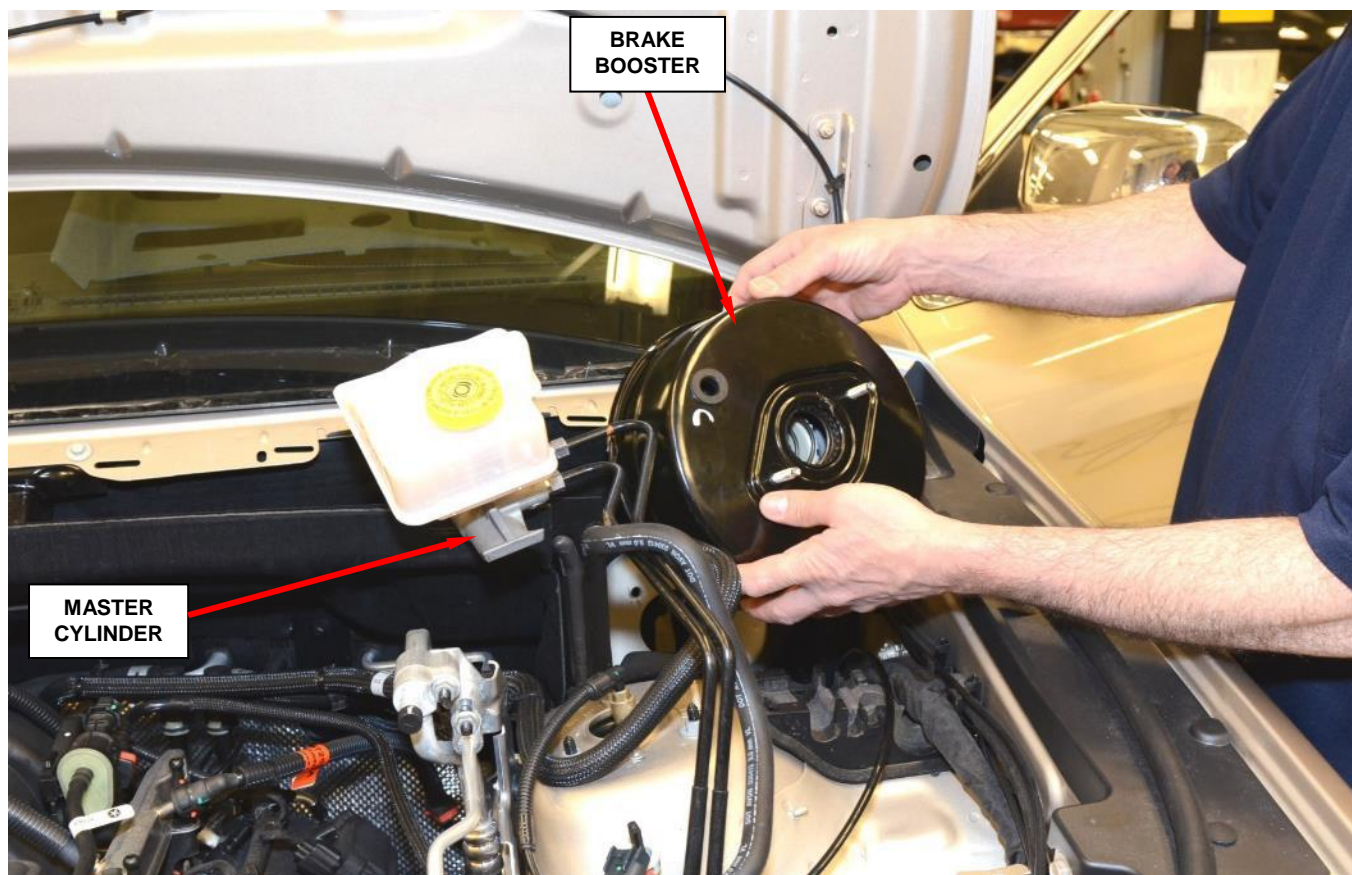

Figure 28 – Brake Booster
20. Remove and discard the original brake booster (Figure 28).